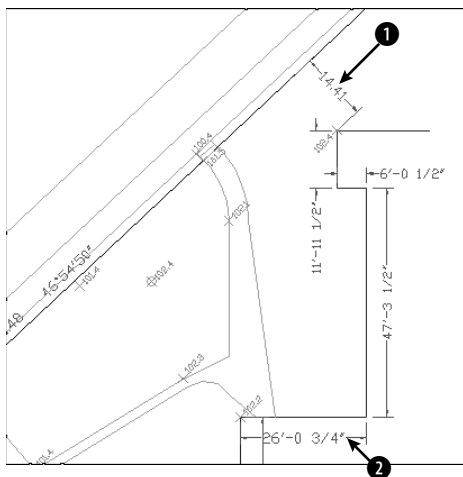

**Figure 14-33:** A dimensioned civil engineering drawing.
2. Save the file as **ab14-08.dwg** in your AutoCAD Bible folder. This is a civil engineering drawing whose dimensions need some editing (see Figure 14-33). If the Dimension toolbar isn't visible, right-click any toolbar and choose **Dimension**.
3.  The dimension at ❶ in Figure 14-33 is not in the proper units because the text was entered explicitly as 14.41. To correct this error, choose **Dimension Edit** from the Dimension toolbar. At the **Enter type of dimension editing [Home/New/Rotate/Oblique] <Home>:** prompt, right-click and choose **New**. The **In-Place Text Editor** opens, showing zeroes. Because you want the original text, click **OK**. At the **Select objects:** prompt, pick ❶. Press **Enter** to end object selection. (You could correct several dimensions this way.) This action corrects the dimension, automatically creating the text in the current units.
4.  The dimension text at ❷ in Figure 14-33 is too close to the dimension line of the vertical dimension that crosses it. Choose **Dimension Text Edit** from the Dimension toolbar. At the **Select dimension:** prompt, pick ❷. At the **Specify new location for dimension text or [Left/Right/Center/Home/Angle]:** prompt, right-click and choose **Right**. This action moves the text to the right.